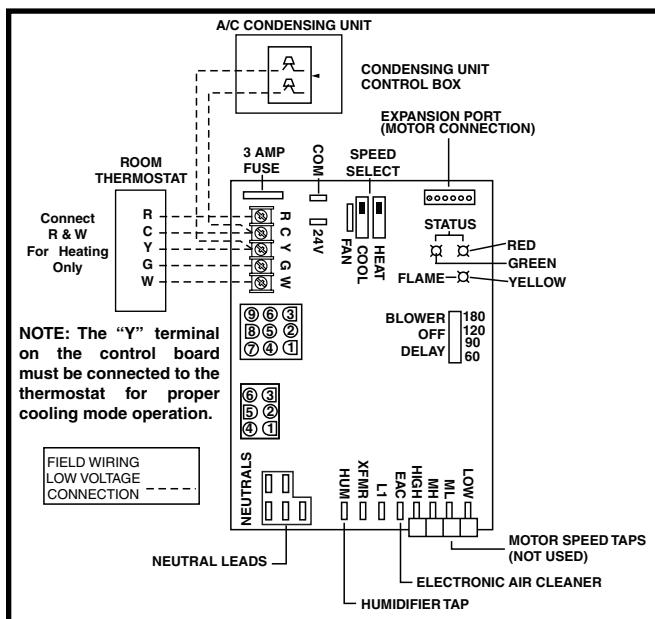

Figure 21. Low Voltage Field, Four-wire Heating/Cooling Applications
- The thermostat must be installed according to the instructions supplied by the thermostat manufacturer. Low voltage connections (24 VAC) from the thermostat are wired to the terminal strip on the integrated control in the furnace. Figure 21 (page 23) contains the proper connections for heating only (two-wire) and heating/cooling (four-wire) applications. Recommended minimum wire gauge for thermostat wiring is shown in Table 5 (page 23).
The operating sequences for the heating, cooling, and fan modes are described below. Refer to the field and furnace wiring diagrams: (Figure 21, page 23) and (Figure 26 page 32).